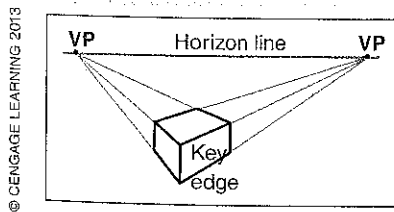

Figure 5-55: Lightly connect the far corners of the cube to the opposite vanishing points. Darken the outlines of the cube.
- Step 4. Draw a light line back to the opposite vanishing point from the back corners of the two visible sides (see Figure 5-55). This will outline the top of the box. Because you are above the box, you can see three faces—two sides plus the top.